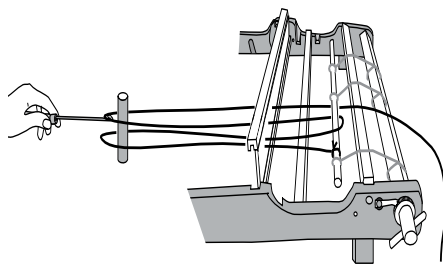

FIGURE 7: PLACE THE SECOND LOOP OVER THE WARPING PEG
6. Continuing along the apron rod to the left, pull another loop of yarn *under* the apron rod (to encircle the rod) and through the next slot in the rigid heddle. Place the loop over the warping peg (figure 7).